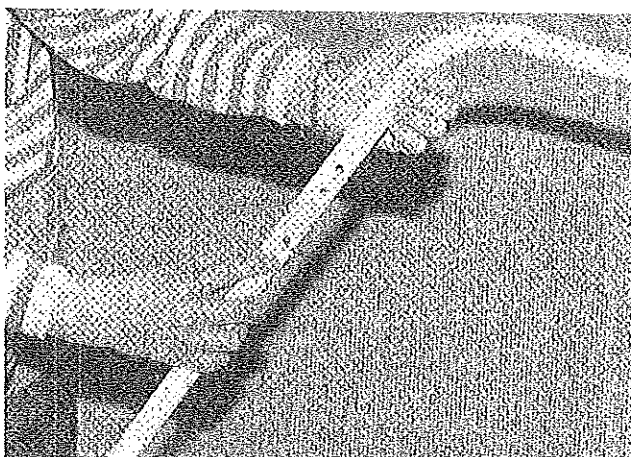

FIGURE 28
1. Adjust bed bow support as necessary to make the tent enclosure over the bed taut. This is done by pressing the release button on the pole and extending the rod to the next adjustable hole. See Figure 28.